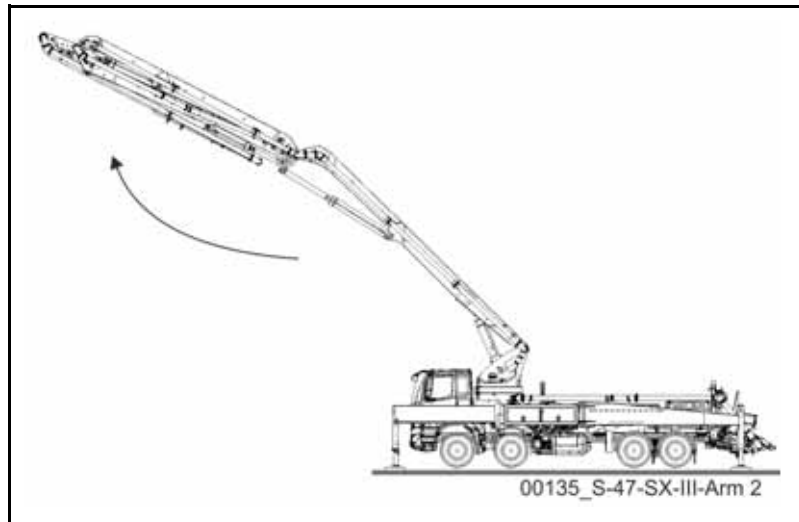
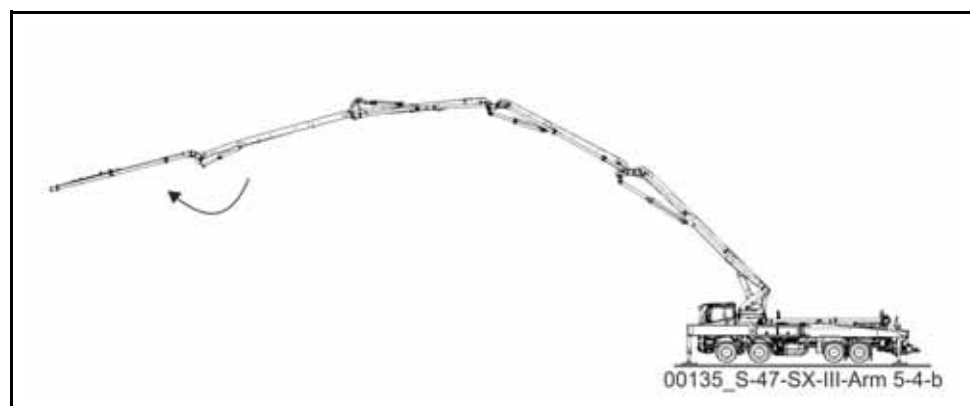

Fig. 174 Boom section 2
Fig. 178 Boom section 5 complete
- First unfold placing boom sections 2, 3, 5, and then boom section 4, if there is enough free space (**Fig. 174**) - (**Fig. 178**).